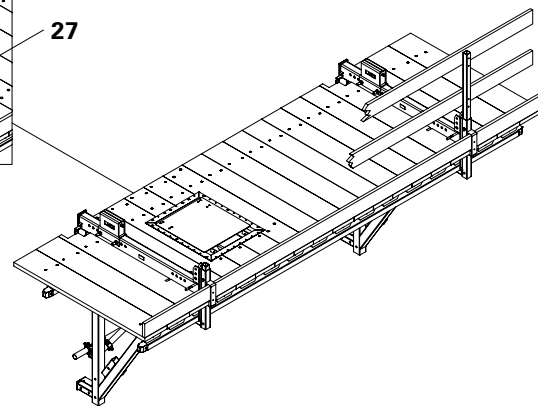

Fig. A2.04
We recommend that the hatch, as featured, be installed close to the bracket in order that personnel can hold the spindle when climbing. (Fig. A2.04)
- Attach hatch frame to the planking using approx. 20x TSS-TORX 6 x 40 (22). (Fig. A2.04)